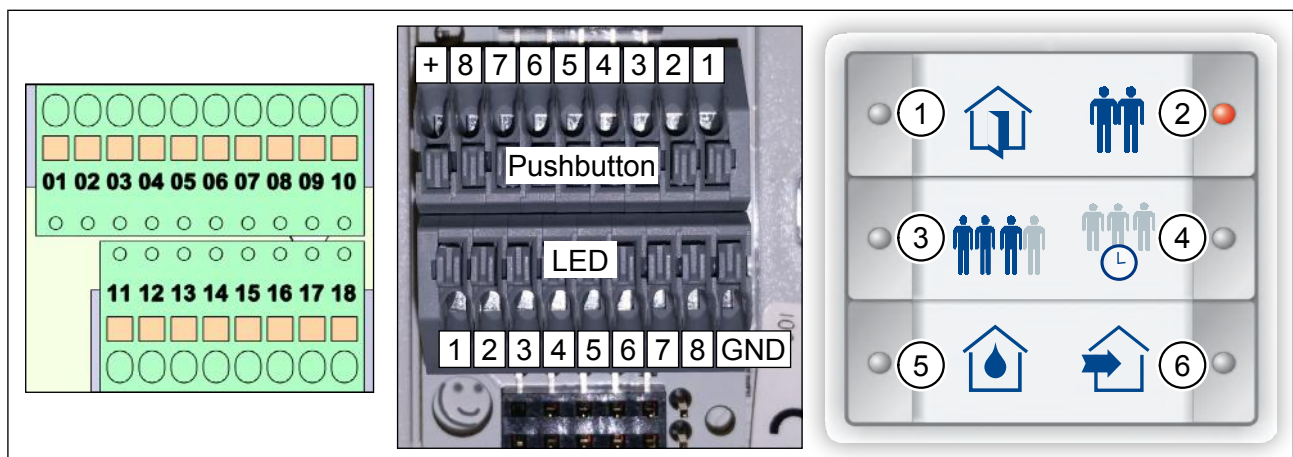

Fig. 6: Terminal blocks on M-WRG-S/Z-T-F, terminal blocks on InControl pushbutton sensor, M-WRG-S/Z-T-F insert sheet
- ▶ After wiring, place the insert sheet (Fig. 6) in the InControl pushbutton sensor.